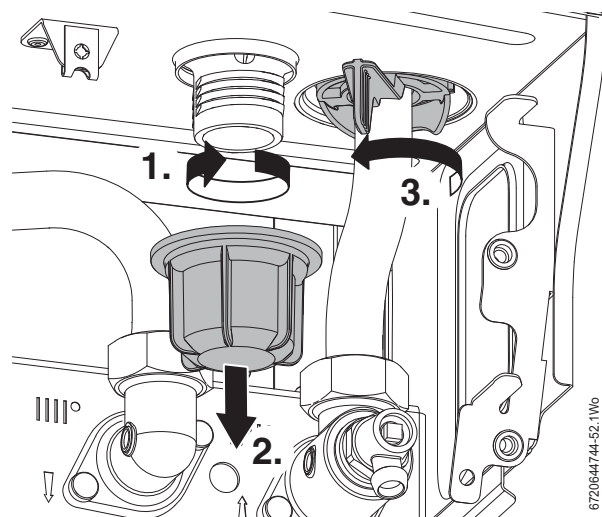

Fig. 87 Sump connections
1. Refer to figure 87 and unscrew the plastic nut.